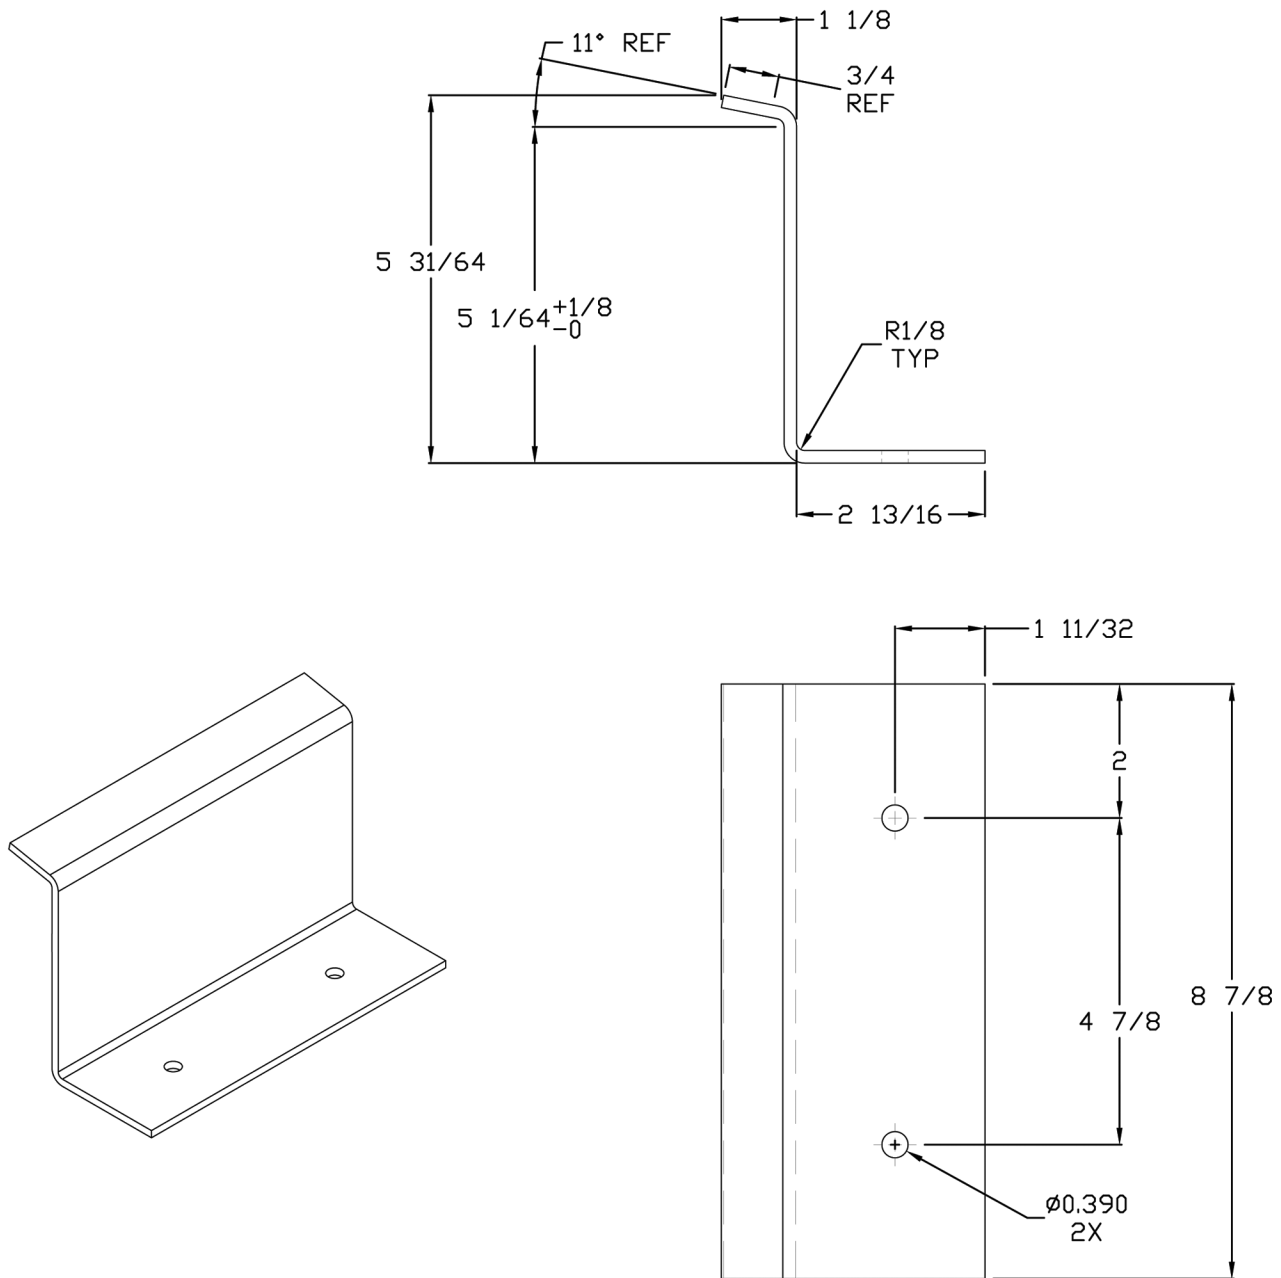

Figure 10
D. Mounting the Gantry Tray Catch (Figure 10)